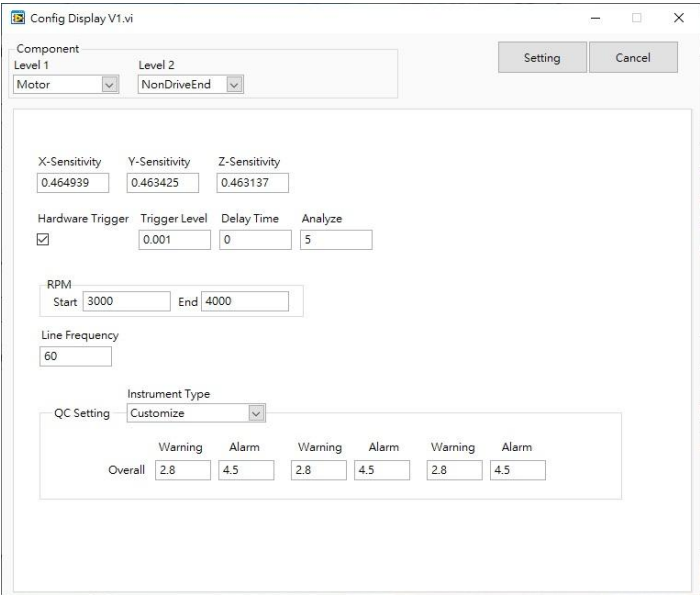

Figure2-26 Aurora Modbus Utility Motor.NonDriveEnd Mode Analysis Parameter Settings Page
As shown in Figure2-26, analysis parameter setting descriptions for 213MM2-R1 under Motor NonDriveEnd mode are as follows. Please note that readings displayed on the software interface are all existing active analysis parameters inside the sensor.
- RPM: Speed range of rotating machinery; speed range must be set to accurately judge damage energy. Readings are Start 3000, End 4000, as shown in Figure2-26.
- Line Frequency: AC power frequency used; reading displays 60Hz, as shown in Figure2-26.
- Overall QC Setting: Tri-axial time-domain feature failure determination thresholds; readings for all three axes display Warning 2.8, Alarm 4.5, as shown in Figure2-26; if an equipment category defined in ISO-20816 is selected, the system will automatically populate QC, as shown in Figure2-28.